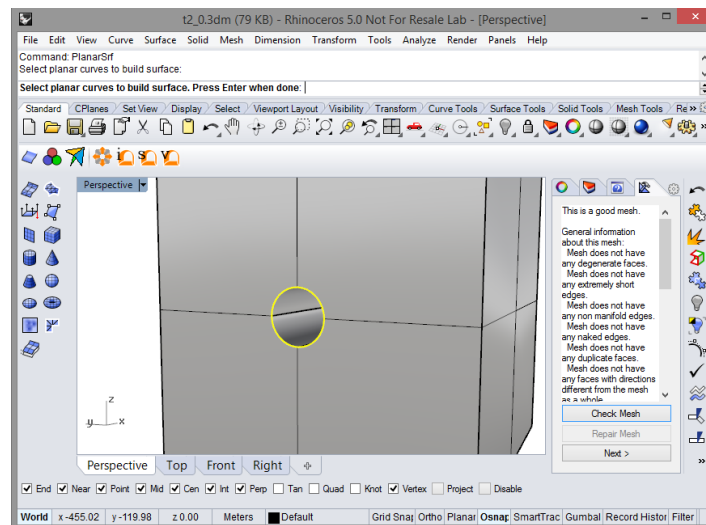

Figure 95: Putting a planar end-cap on a tunnel.
48. We wish to have the tunnels filled with elements, therefore we need to put planar caps on the ends of the tunnels where they intersect the box. Do this with the **_PlanarSrf** command. Type **_PlanarSrf** on the command line and select a tunnel perimeter where it intersects the box boundary and press Enter (Figure 95). Do this for all three openings.